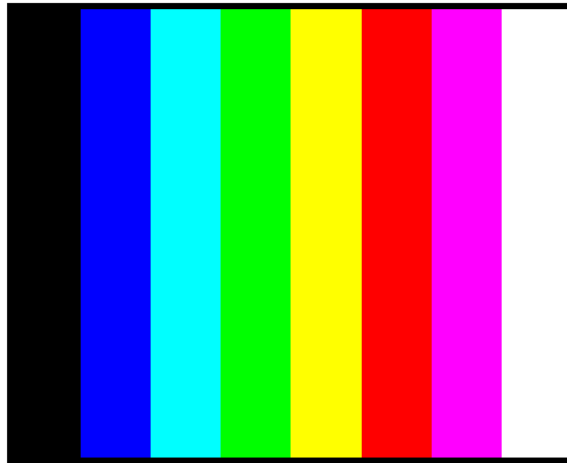

Figure 12 – Example of display in Color bar mode
- the color bar mode, which is a test mode (Figure 12)